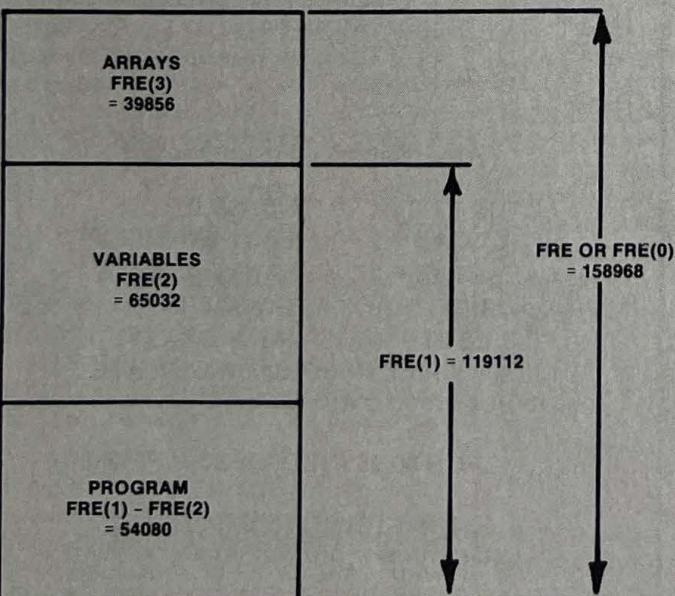

Figure 1
You can also investigate the Sanyo memory allocations for program variables and arrays in SBASIC, but not BASICA. While in SBASIC, with no program in memory (type NEW and press ENTER to be sure), ?FRE or ?FRE(0) will display the number of free bytes available to the user. ?FRE(1) displays the total bytes available for the program and its variables. ?FRE(2) displays variable space only, and ?FRE(3) displays array space only. ?FRE(1)-FRE(2) displays the program area only. Figure 1 shows the results I got.